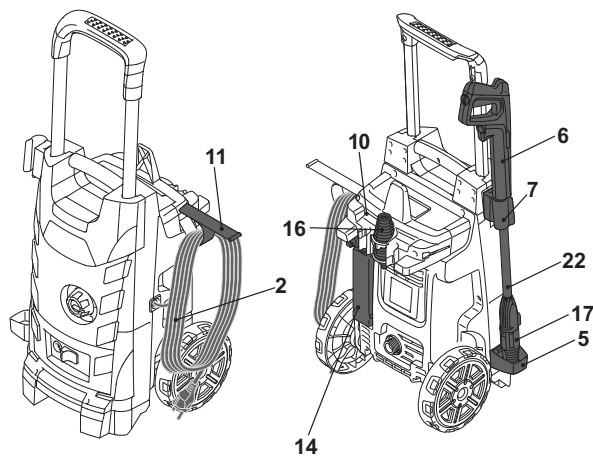

Fig. 18
Use the supply cord storage belt (11) to store the supply cord (2) (Fig. 18).
Use the upper spray gun holder (7) and lower spray gun holder (5) to store the spray gun (6), extension lance (22) and vario nozzle (17) (Fig. 18).
Accessories (soap tank (14), rotary nozzle (16)) can be stored at the back of the product. (Fig. 18).